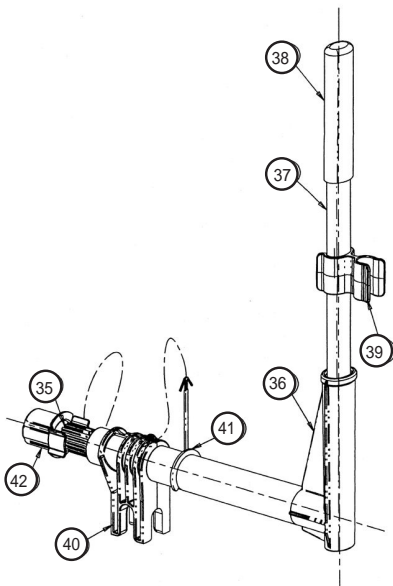

FIG. 4
3. Remove retaining clip (fig. 4, item 41) from bottom of tank base. Remove pump handle.